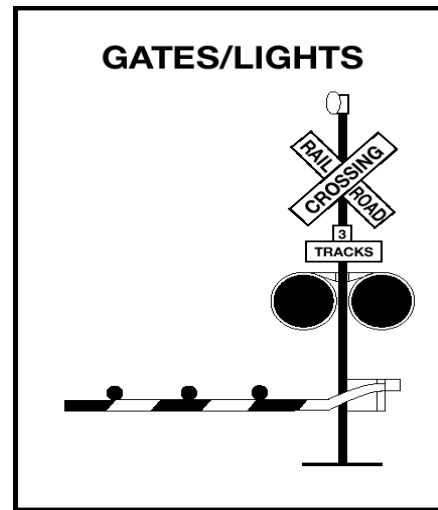

Figure 2.18
red lights and bells. When the lights begin to flash, stop! A train is approaching. You are required to yield the right-of-way to the train. If there is more than one track, make sure all tracks are clear before crossing. See Figure 2.18.
**Gates.** Many railroad-highway crossings have gates with flashing red lights and bells. Stop when the lights begin to flash and before the gate lowers across the road lane. Remain stopped until the gates go up and the lights have stopped flashing. Proceed when it is safe. See Figure 2.18.